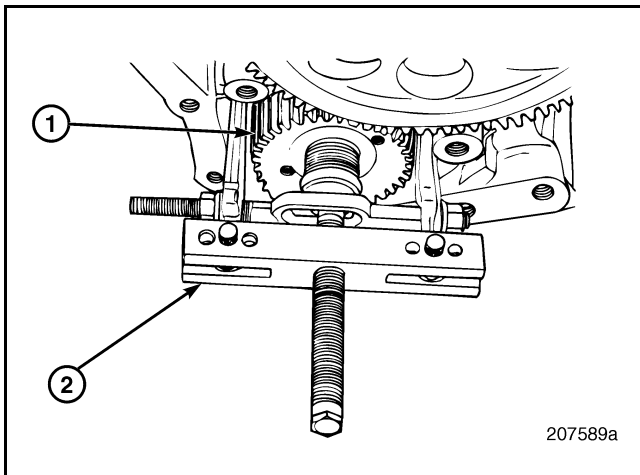

Figure 113 — Auxiliary Shaft Gear Removal
1. Remove auxiliary shaft gear retaining nut (1).
2. Using a suitable puller such as J 4558-01, remove auxiliary shaft gear (2) from the splines (5) on the end of shaft (Figure 113).